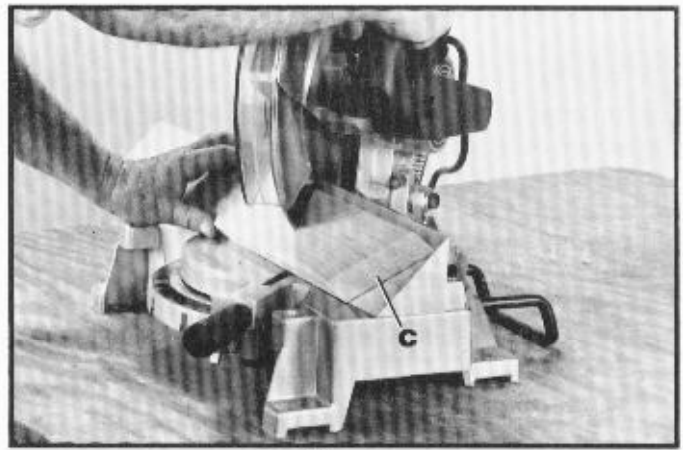

Fig. 47
5. Fig. 47, illustrates making a compound miter cut at the 45 degree right miter position. The 45 degree left compound miter cut, shown at (C) Fig. 47, was previously cut with the saw blade at the 45 degree left miter position.